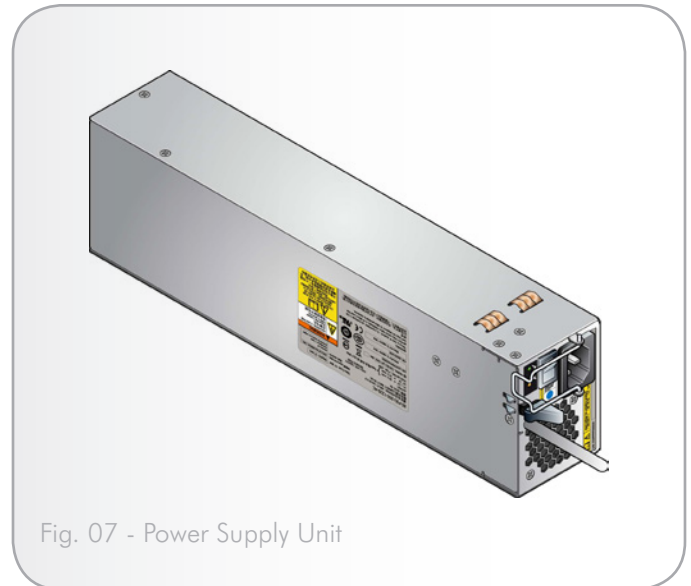

Fig. 07 - Power Supply Unit
- ◆ Two plug-in 100-240V AC, 350W Power Supply Units (PSUs), (see Fig. 07)
Two 100-240VAC 350W Power Supply Units (*Fig. 07*) are supplied mounted in the rear of the enclosure as part of the enclosure core product.
Two LEDs mounted on the rear panel of the PSU (see *Fig. 07*) indicate the status of the module. The LED states are defined in *Table 04 - Power Supply LEDs*.